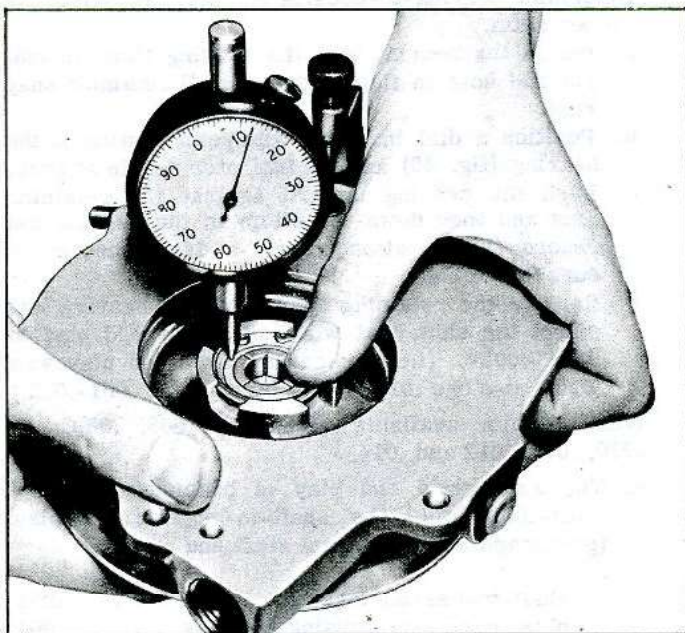

Fig. 46—Gauging Bearing-to-Housing End Play
- Position a dial indicator with point resting on the bearing (fig. 46) and set indicator needle at zero.